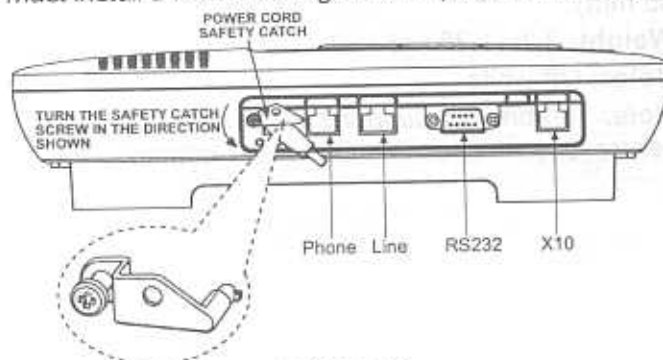

Figure 3a
Connect the Unit to your Telephone Line (Figures 3a and 3b)*
2. Insert the safety catch tab horizontally into the hole to the right of the power cord plug, as shown in Figure 3a.
3. Turn the safety catch screw, observing the polarity of the arrow in Figure 3a, until facing the other hole. Then secure the screw.